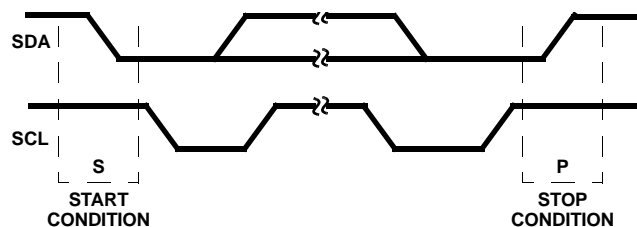

FIGURE 17. START AND STOP WAVEFORMS
As shown in Figure 17, a START (S) condition is a HIGH to LOW transition of the SDA line while SCL is HIGH. The STOP (P) condition is a LOW to HIGH transition on the SDA line while SCL is HIGH. A STOP condition must be sent before each START condition.